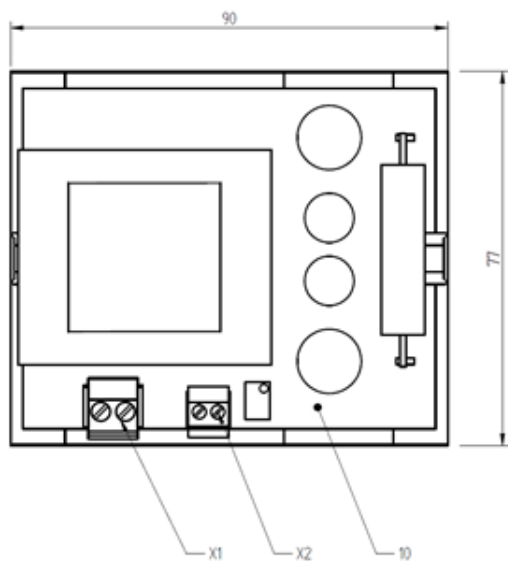

Fig. 3: Top view
- In the event of a change in the  $>1$ s cycle period, the measuring device has to be upgraded at the Cx ports by a capacitor (take note of polarity) >> see Fig. 3: Top view